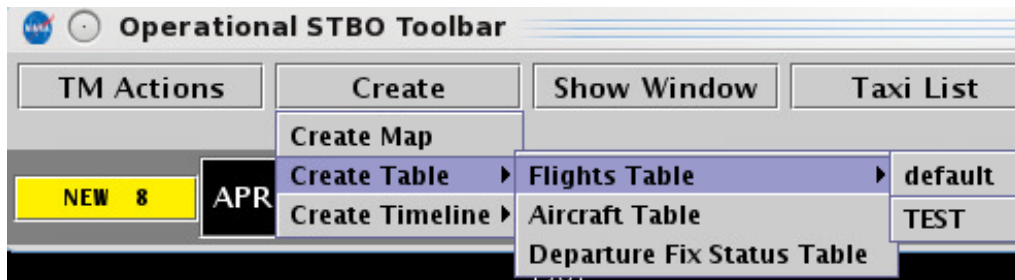

Figure 58. Create a new Flights Table.
**Step 3:** Select “Flights Table”. If a new table is desired, click “Default” (Figure 58). If a table was previously saved with preferred settings (see section 62), select the name of the saved Table file.